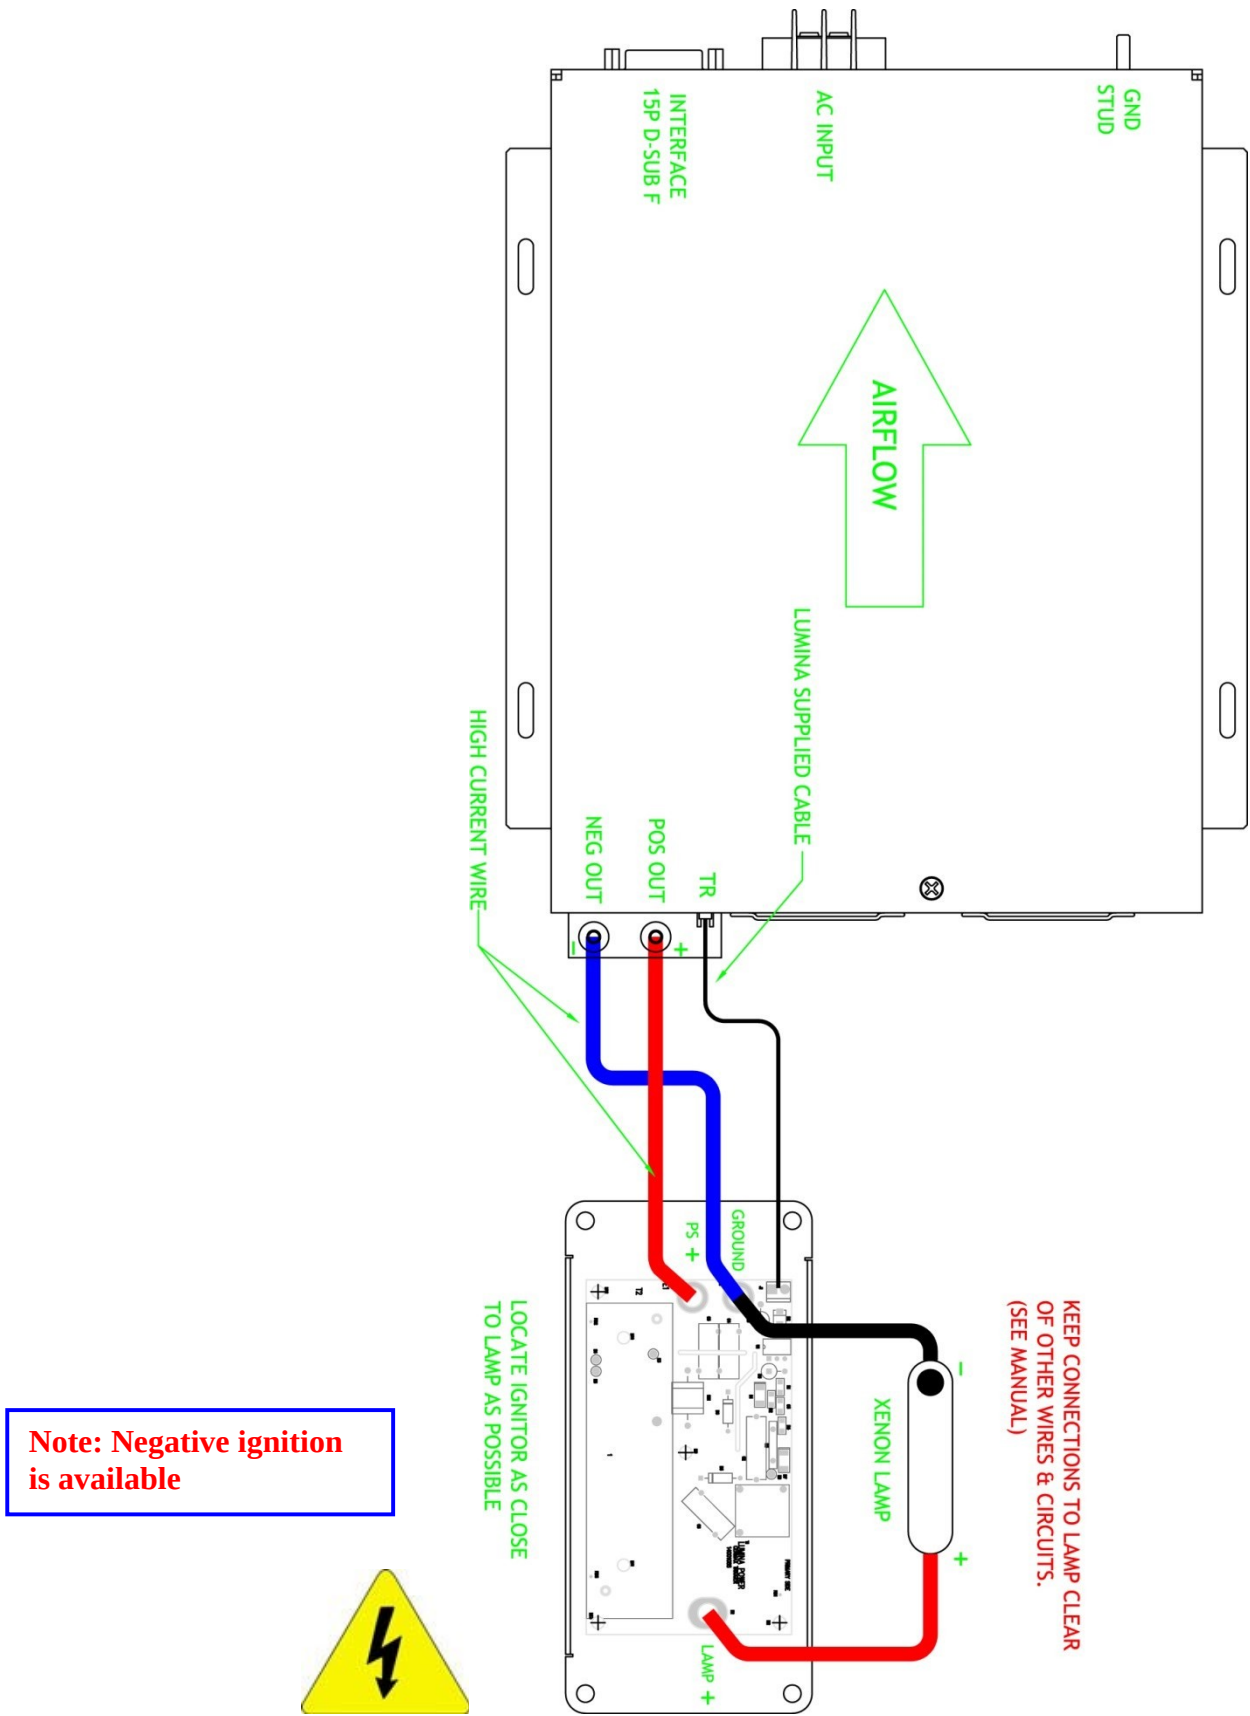

Figure 7
1. **Connecting to Xenon Lamp:** Figure 7 shows the interconnections between the XLB-1000/1500, the Igniter module and the Xenon lamp. **Because the Igniter module produces a high speed 45kV pulse when igniting the Xenon lamp, it is important to keep connections between the igniter module and the lamp as short as possible to avoid I²R losses in the wire. Wire length of 30 cm or less is recommended for reliable ignition!**
2. **TR Trigger Sense Connection:** Connect the TR trigger sense connection wire to the trigger module and the XLB-1000/1500 main power supply chassis. The cable for this connection has been provided. The location of the connections is shown in Figure 7. Note: unit will not operate if not connected.